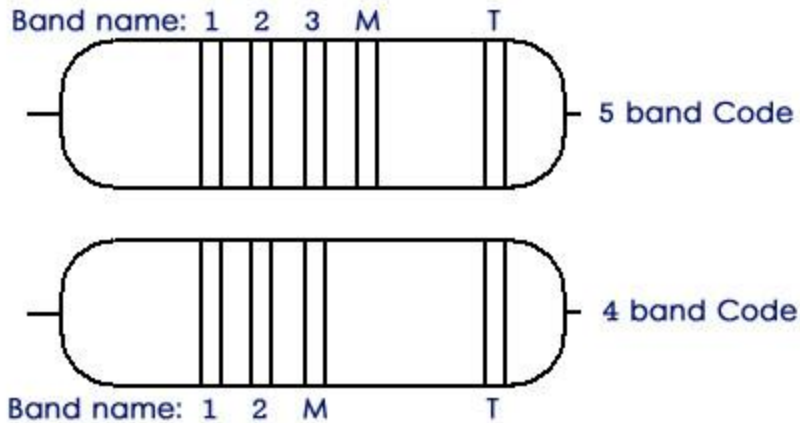

figure 13.A
There are two common ways to know a the value of a resistor, by measuring it using an Ohmmeter, or by reading the color code printed on it, which is much faster, when you get used to it. As you can see in **figure 13.A**, some resistors have 4 color bands on it, and some have 5. Both of them use the same encoding method. The bands named 1, 2 or 3 in **figure 13.A** can be translated into a 2 or 3 digit number using the table below. the band named M is the multiplier, meaning the number obtained from the previous digits have to be multiplied by 10 to the power M (or simply, add M number of zeros after the 2 or 3 digits number). The Value of M is also obtained from the table below. The last band at the right (T) is the tolerance band, which is usually gold meaning 5% tolerance or silver meaning 10%.